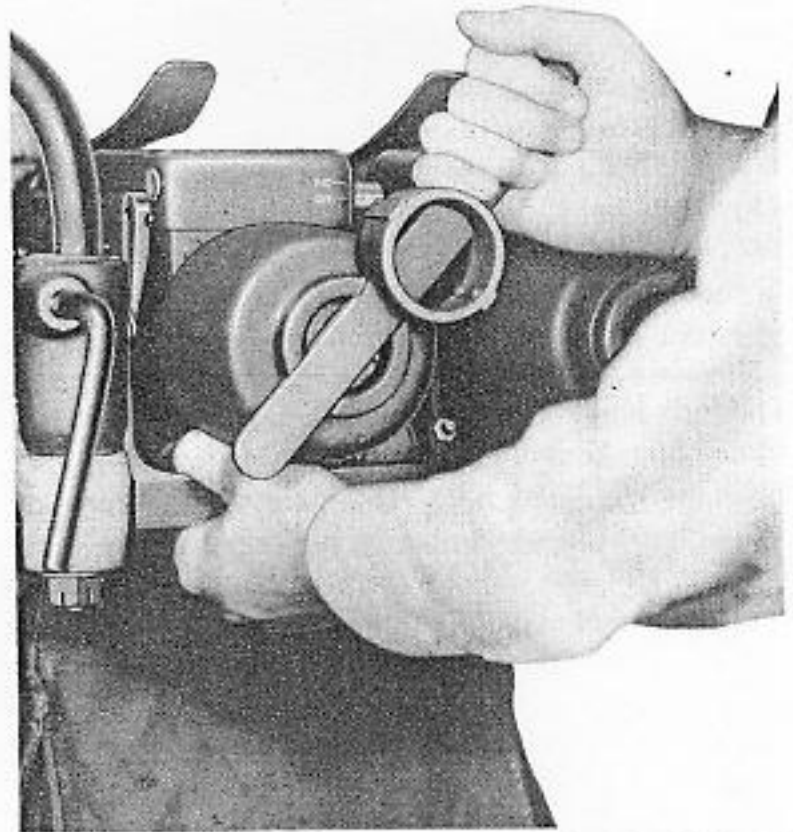

Figure 12. Tripping Cap-Retaining Catch and Removing Breech-Casing Cap.
3. **Breech-Casing Cap.** Remove the breech-casing cap as shown in Fig. 12 by turning it off with the barrel seating ring spanner (299814-3). The breech-casing cap retaining catch must be disengaged when the cap is first turned.